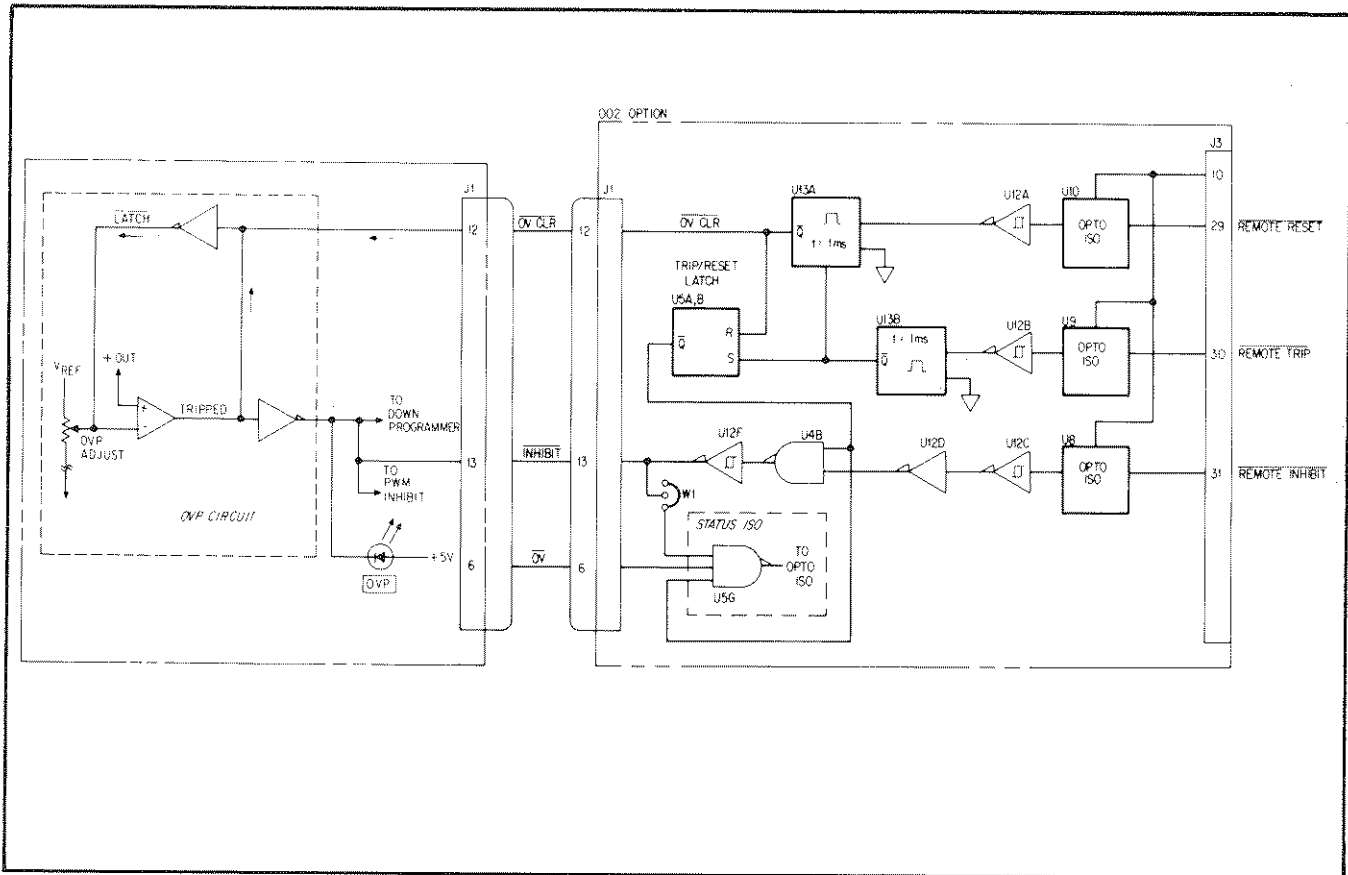

Figure A-8. Remote Control
to REMOTE RESET, see Table A-1. The following paragraph provides a brief circuit description (see schematic diagram and Figure A-8).
A-45 **Remote Reset.** A negative-going edge applied to terminal J3-29 (REMOTE RESET) will return the supply to its initial state following a system-initiated shutdown or an OVP shutdown caused by a temporary over voltage condition. For minimum pulse duration and timing considerations with respect to REMOTE TRIP see Table A-1 under Remote Control. The following paragraphs provide a brief discription of this circuit (see schematic diagram and Figure A-8).
**A-48 Alternate Method of Remote Control.** The REMOTE INHIBIT input, J3-31, provides an alternate method of remote shutdown. By maintaining a low logic level at this input, the supply's output will be inhibited until REMOTE INHIBIT is returned to its initial high state. The following paragraph provides a brief description of this circuit (see schematic diagram and Figure A-8).
**A-49** A low logic level applied to terminal J3-31 (REMOTE INHIBIT) is coupled through opto-isolator U8 and causes U4B to inhibit the power supply's (PWM) Pulse Width Modulator. If jumper W1 is used (see Figure A-8) while a REMOTE INHIBIT signal is applied, an OVERVOLTAGE signal will appear at terminal J3-17 OVERVOLTAGE thus, indicating the power supply shut down.